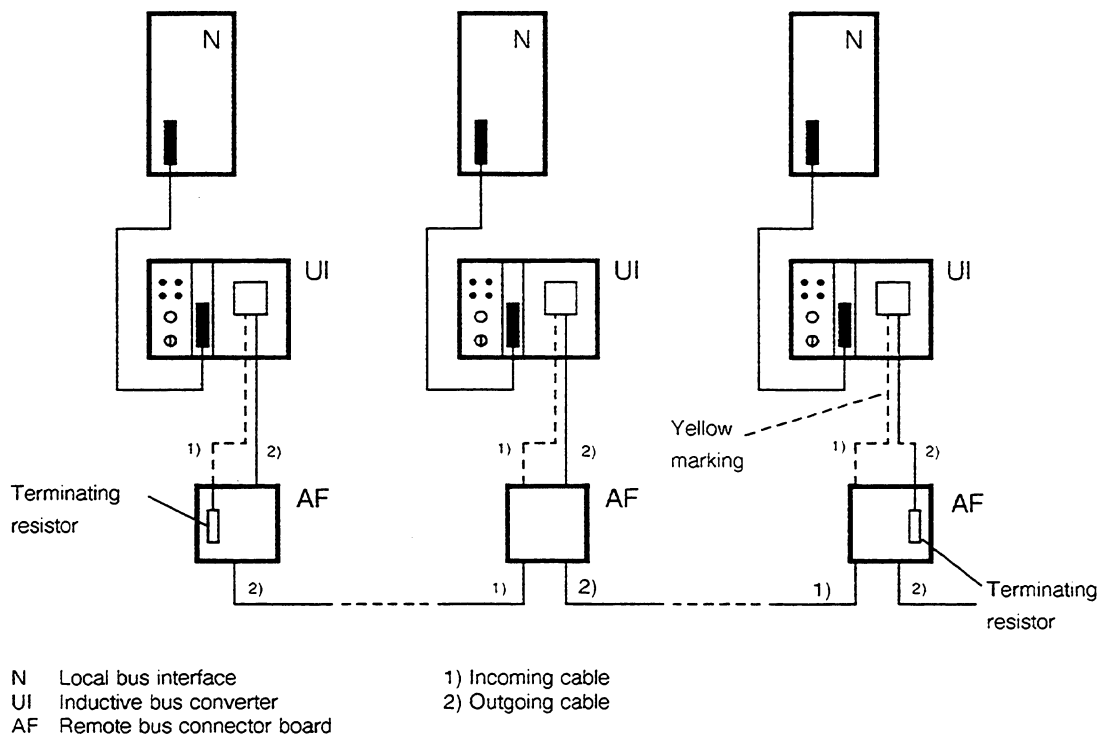

Fig. 5.2 20-m local bus/remote bus, non-redundant
There are various mounting arrangements for the UI in the CS 275 bus system (see Figs. 5.2 and 5.3). A difference is made between:
- Operation on 20-m local bus, non-redundant (Fig. 5.2)